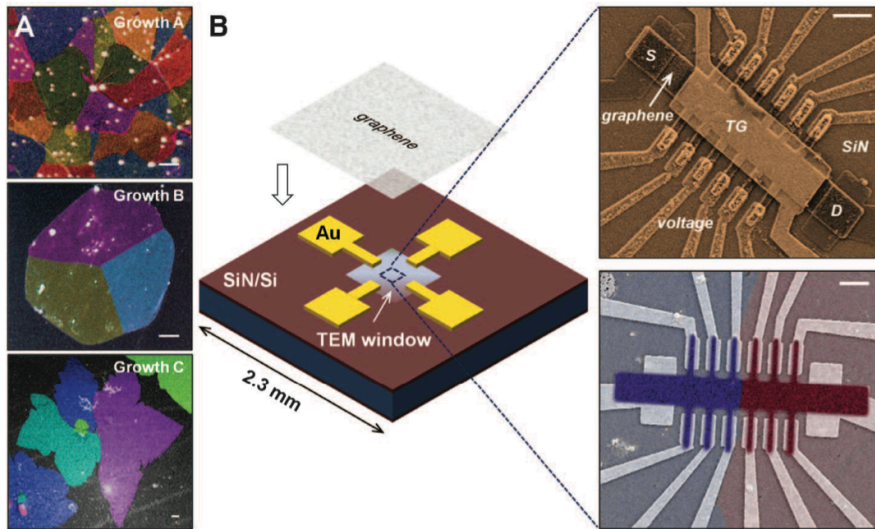

**Figure 1 | Atomic-resolution ADF-STEM images of graphene crystals.**
**Fig. 1.** (A) Composite false-color DF-TEM images of CVD graphene produced using three different growth conditions—A, B, and C—yielding average domain size  $D$  of 1, 10, and 50  $\mu\text{m}$ , respectively, in continuous films. (B) (Left) Schematic of specially fabricated TEM chip compatible with electron-beam lithography and electrical measurements. (Top right) SEM image of top-gated, graphene Hall bar device. (Bottom right) Overlaid SEM and DF-TEM images showing device crossing a single GB of two domains from growth C. Scale bars, 1  $\mu\text{m}$ .